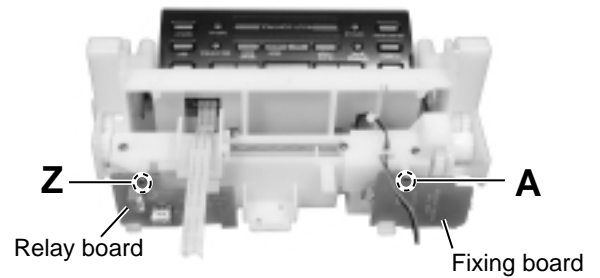

Fig.41
■ Removing the drive motor assembly (See Fig.41 to 44)